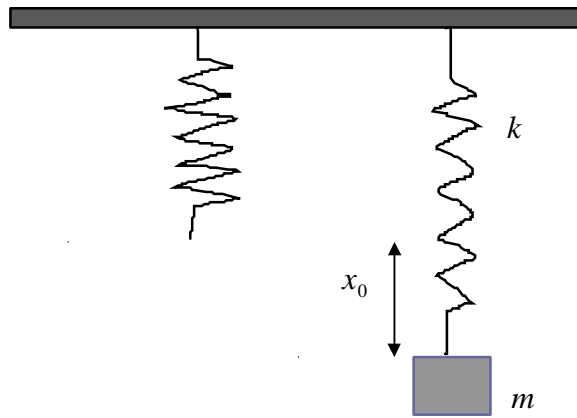

Fig. 1. A mass on a spring in the gravitational field of Earth
1. Show by using Eq. (1) that a stationary mass m hanging from a spring with spring constant k (Fig. 1) stretches the spring to a new equilibrium position $x_0 = \frac{mg}{k}$.
2. Show by substitution that Eq. (3) is a solution to Eq. (2). Would a solution of the form $x(t) = A \sin(\omega_0 t + \phi)$ work in Eq. (2)?
3. Confirm by substitution that a solution to Eq. (6) indeed takes the form of Eq. (7).
4. Show that when $\gamma = 0$ (no damping), Eq. (7) reduces to Eq. (3).
We will next consider the case of a mass attached to a spring as shown in Fig. 1. If the spring is now set into motion, stretching or compressing the spring acts to retard its deviation from the equilibrium position and we get back Eq. (2) for the differential equation describing its motion, where x is now the amount the mass deviates from its equilibrium position. The solution is once again $x(t) = A \cos(\omega_0 t) + C$ with the angular frequency $\omega_0 = \sqrt{k/m}$.
5. Plot voltage vs. time and use the general curve-fit editor to perform a non-linear least-squares fit procedure using the function given in Eq. (3). KaleidaGraphically your function given in Eq. (3) is $m_1 + m_2 \cos(m_3 t + m_4)$; m_3 and m_4 are in radians. Note: This non-linear least-squares fit function will not converge unless your initial parameters ($m_1 \dots m_4$) are realistic. Show in your notebook how you estimated these parameters. How do the values compare to those output by *K-graph*?